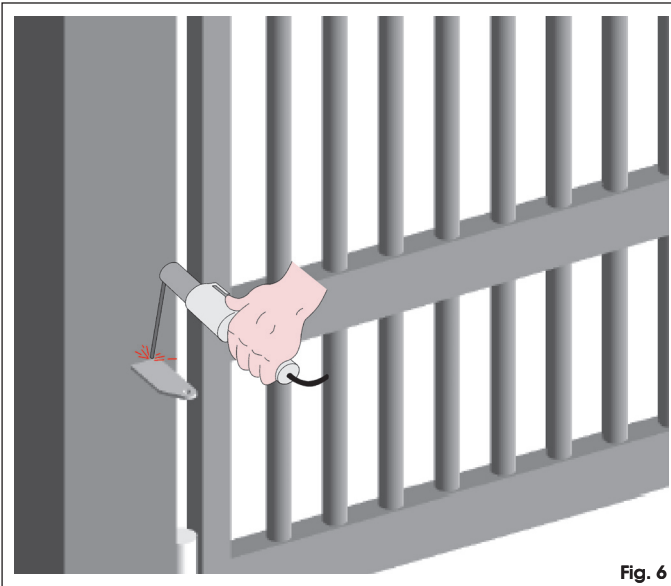
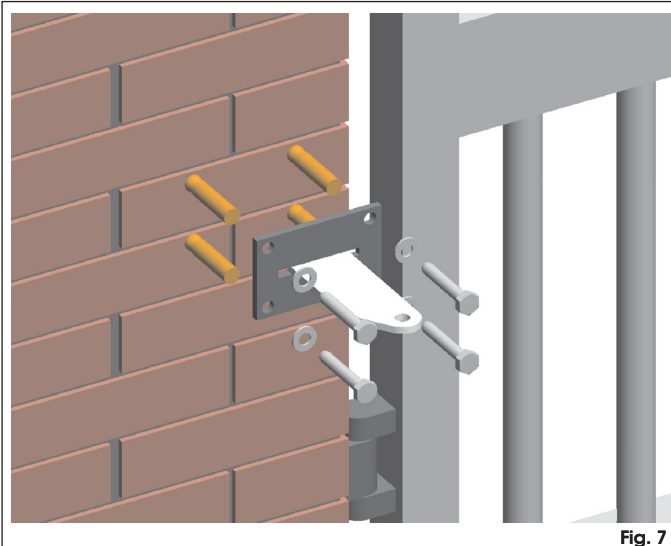

Fig. 6
Fig. 7
1. Fix the rear bracket in the position determined before. In the event of iron pillar carefully weld the bracket directly on the pillar (Fig. 6). In the event of masonry pillar, use the suitable plate (optional) for the fixing to screw (Fig. 7) by making use of suitable fastening systems. Then carefully weld the bracket to the plate.